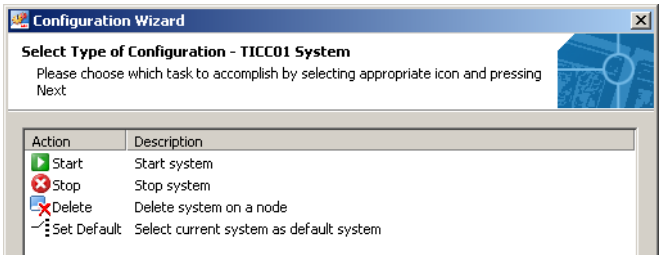

Figure 15. Systems Dialog Box
4. Select **Stop** in the Systems dialog box and click **Next**, see Figure 15.
4. Select **Delete**, see Figure 15, click **Next**.
- 1. Select **Set Default** in the Systems dialog box, see Figure 15.